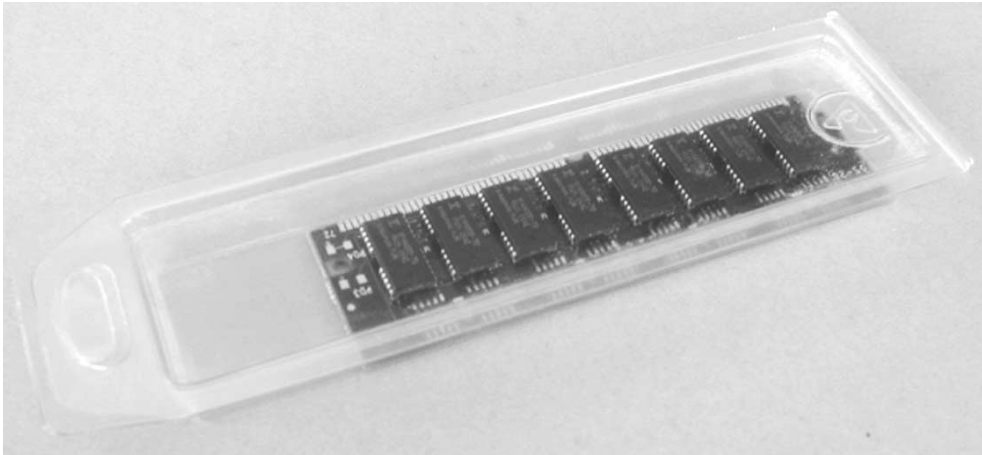

Figure 7-8. A SIMM in its protective and antistatic packaging
- **Protect the memory module** Most memory modules, SIMMs and DIMMs, come packaged in an antistatic sleeve (see Figure 7-8). Keep all memory modules in their protective packaging right up to the moment you are ready to install them. Also, place any removed modules into a protective sleeve immediately after removing them from the PC, and never stack unprotected memory modules on top of each other.